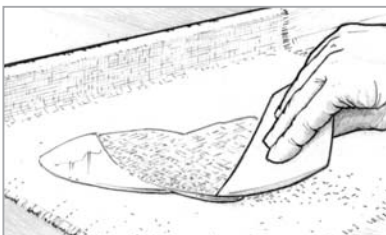

Figure 24 Spread the epoxy over the cloth surface with a plastic spreader.
5. Spread the epoxy over the cloth surface with a plastic spreader, working the epoxy gently from the pool into the dry areas (*Figure 24*). Use a foam roller or brush to wet out fabric on vertical surfaces. Properly wet out fabric is transparent. White areas indicate dry fabric. If you are applying the cloth over a porous surface, be sure to leave enough epoxy to be absorbed by both the cloth and the surface below it. Try to limit the amount of squeegeeing you do. The more you “work” the wet surface, the more minute air